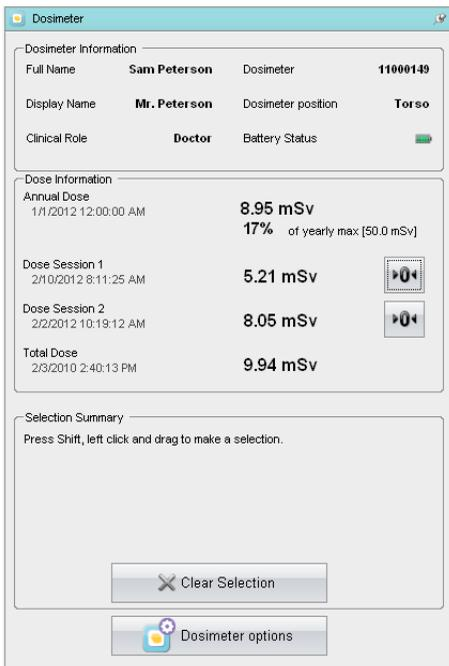

Figure 4. Dosimeter panel
3. Access the dosimeter options dialog by clicking the dosimeter options (see “Figure 4. Dosimeter panel” on page 10). The dosimeter options dialog consists of two tabs: Information tab and Settings tab as shown below.